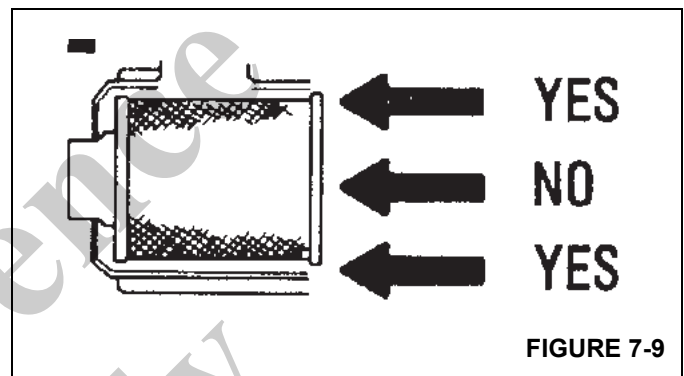

FIGURE 7-9
- b. **INSERT THE FILTER PROPERLY.** The seal area is on the inside of the open end of the primary filter. A new filter has a dry lubricant to aid installation. The critical sealing area will stretch slightly, adjust itself and distribute the sealing pressure evenly. To complete a tight seal, apply pressure at the outer rim of the filter, not the flexible center. No cover pressure is required to hold the seal (Figure 7-9).